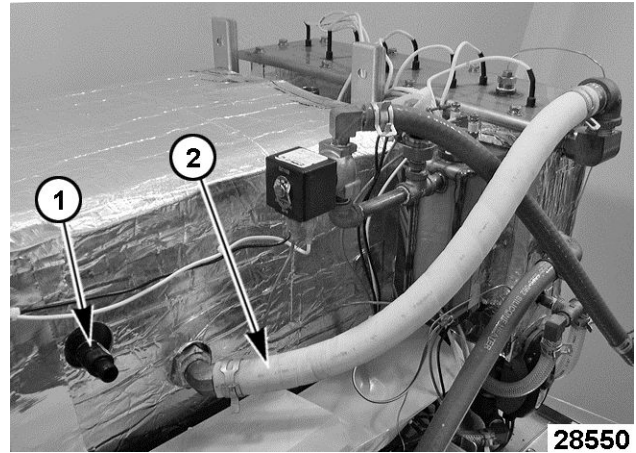

Fig. 29
6. Remove the vacuum breaker [1] Fig. 29 from cooking compartment.
7. Disconnect steam hose [2] Fig. 29 from the steam port inlet fitting on cooking compartment.